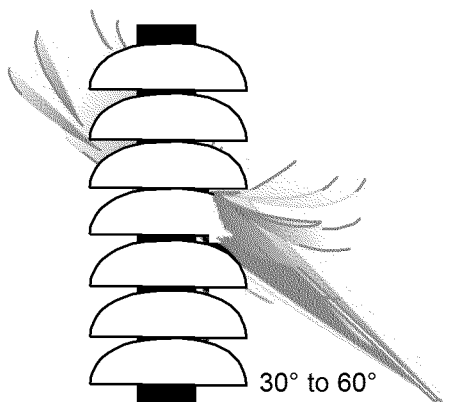

Figure 5-6
- B. Figure 5-6 below demonstrates the optimum angle to ensure that the underside and neck-surface areas of the insulator are thoroughly cleaned.